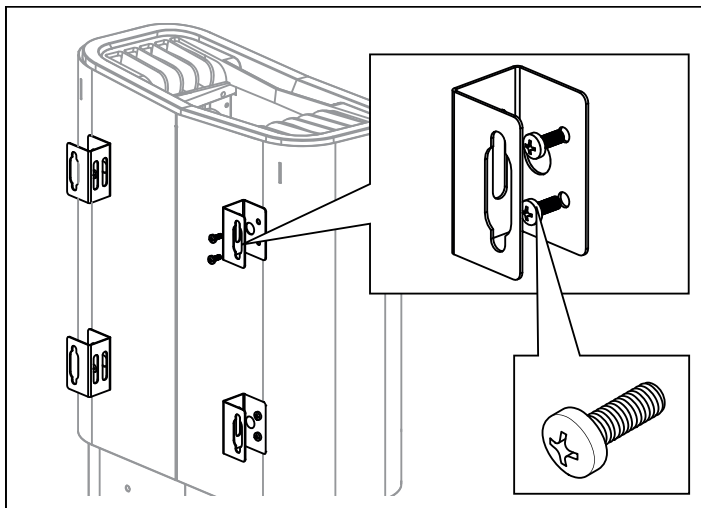

Figure 7: Attaching the brackets to the heater
5. Unscrew the first two screws on the back of the heater and screw one of the four brackets into place. Repeat the procedure until all the brackets are fitted (see Figure 7).